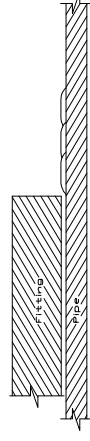

**Figure-1 Encirclement Split Tee fitting Welding sequence**
- The welding sequence for split tees shall be shown in Figure-1.